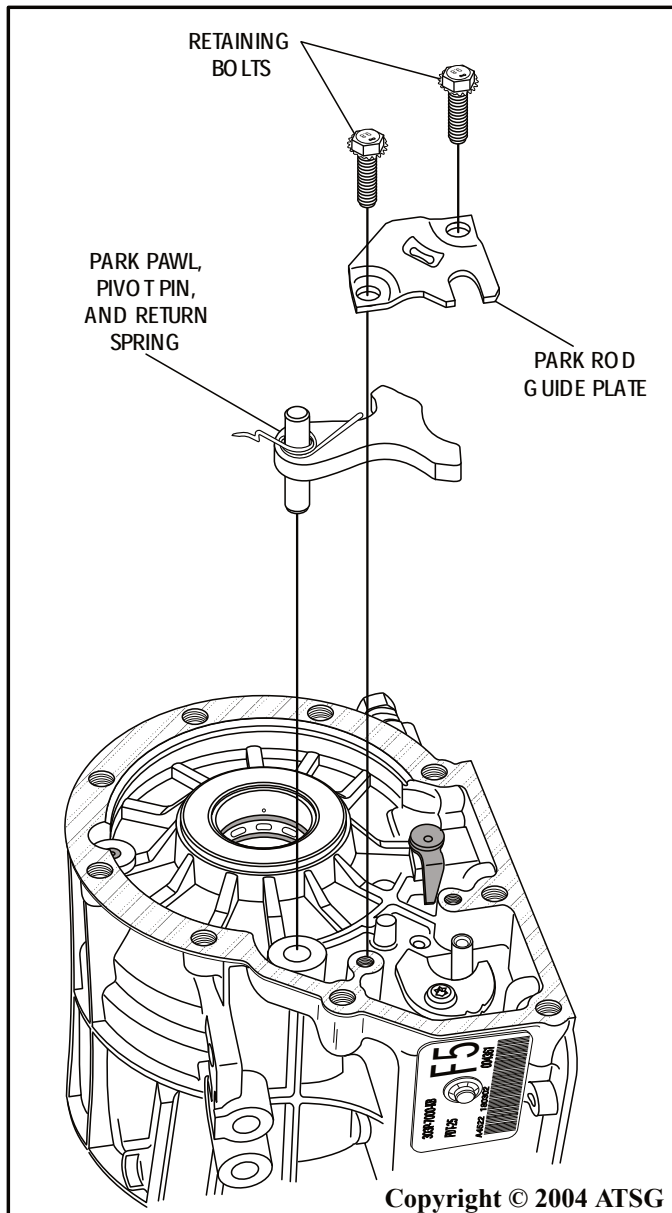

Figure 53
61. Remove the park rod guide plate, parking pawl, park pawl pivot pin and return spring, as shown in Figure 53.